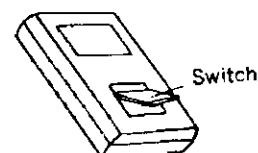

Fig. 5
- If continuous measurements are to be made, swinging the center switch place up as shown in Fig. 5 lock the meter ON.